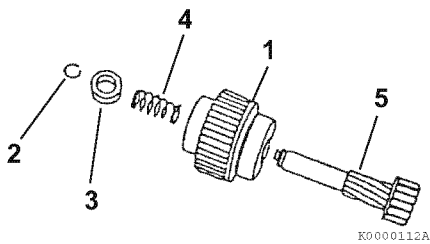

Figure 11-11
12. Disassemble the pinion stop (Figure 11-11, (3)), return spring (Figure 11-11, (4)), pinion clutch assembly (Figure 11-11, (1)), and pinion shaft (Figure 11-11, (5)).